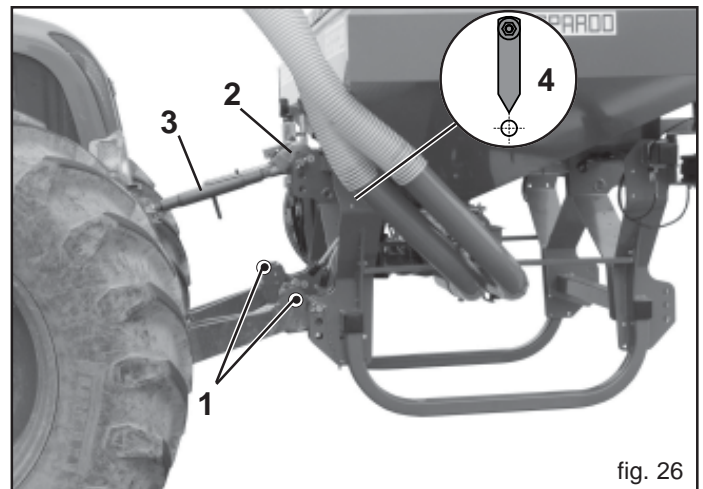

fig. 26
- 1) Hook the lifter bars onto the pins provided (1, Fig. 26) Block with the snap split pins. Hook the chains to the lifting bars
- 2) Connect the third upper point (2, Fig. 26); the pin will be blocked with the appropriate split pin; use the adjusting tierod (3, Fig. 26) to keep the equipment perpendicular to the ground (4).